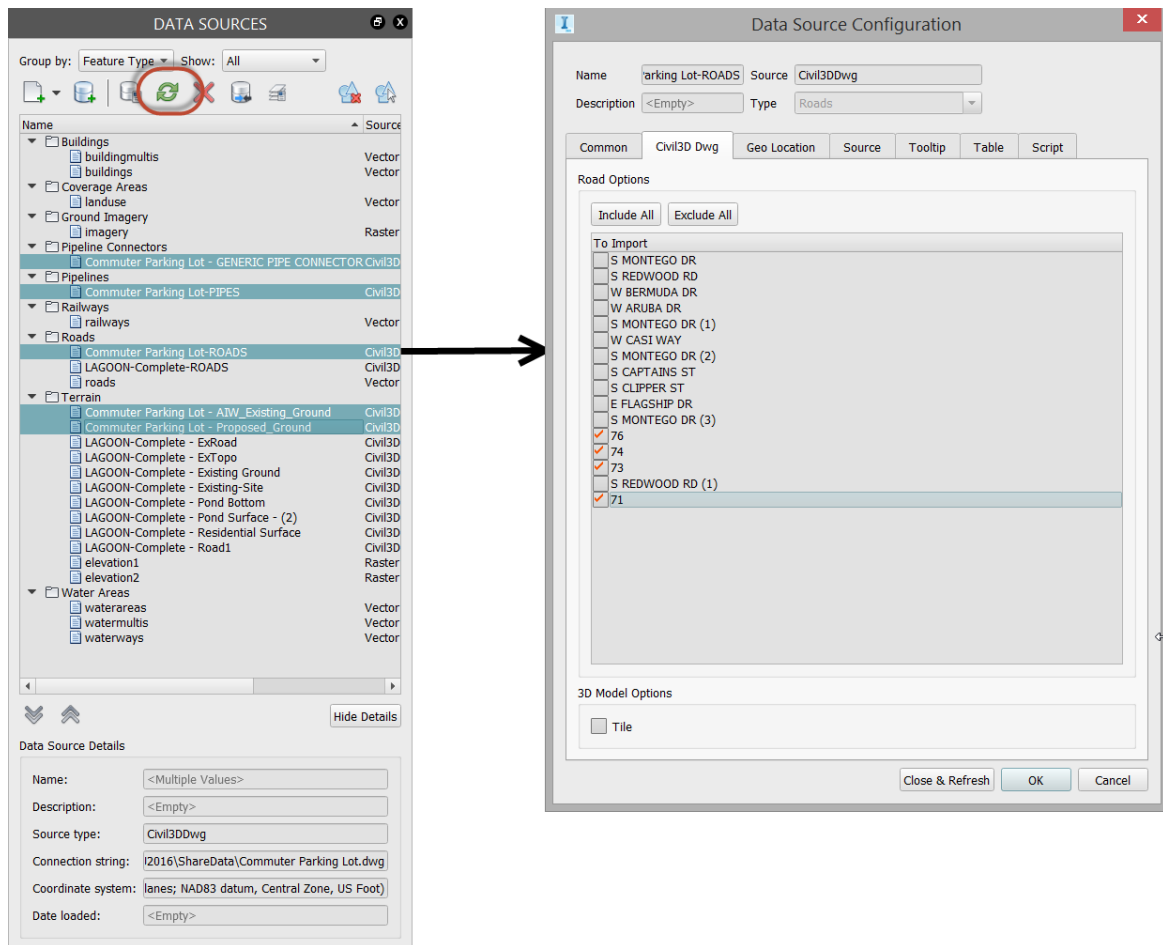

Figure 25
6. In the Data Sources palette, a list of all the AutoCAD Civil 3D objects imported should appear and be highlighted. You can click  (Refresh) (as shown on the left in Figure 25) to have all of the items appear in the model using their default settings.
7. Double-click on any one of the imported data sources to configure it independent of the others. Different options appear for the various types of AutoCAD Civil 3D objects. For example, if you double-click on the imported roads, the *Civil3D Dwg* tab will list all the alignments from the AutoCAD Civil 3D drawing file. This allows you to select just the ones you need, as shown on the right in Figure 25.